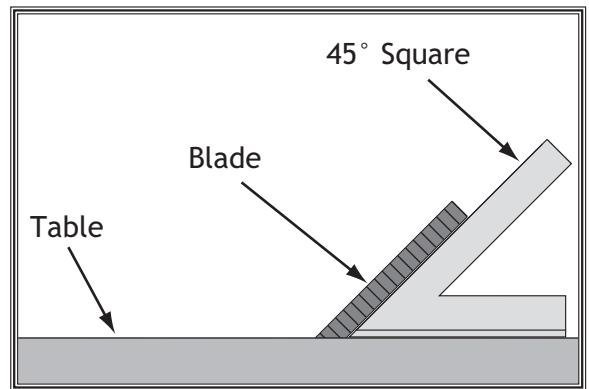

Figure 98. Checking blade at 45°.
3. Place a 45° square against the table and blade so it contacts the blade evenly from bottom to top, as shown in **Figure 98**. Make sure a blade tooth does not obstruct the placement of the square.